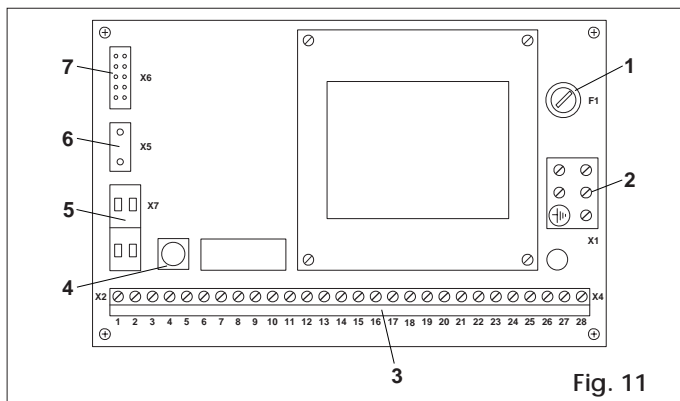

Fig. 11
N.B.: To repeat the initialisation procedure **hold down the RESET button** (fig. 11 - ref. 4) for more than 4 seconds.